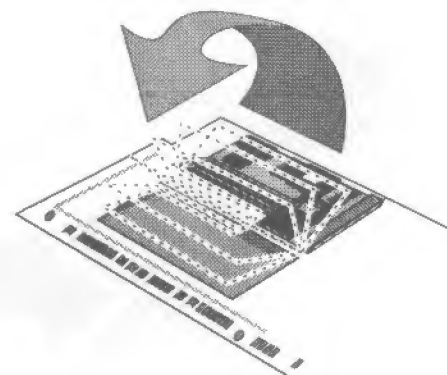

Figure 1.2 — Flipping the A1230 over
3. Flip the A1230 Turbo+ over so the component side of the board is facing away from you, and into the computer (see Figure 1.2).